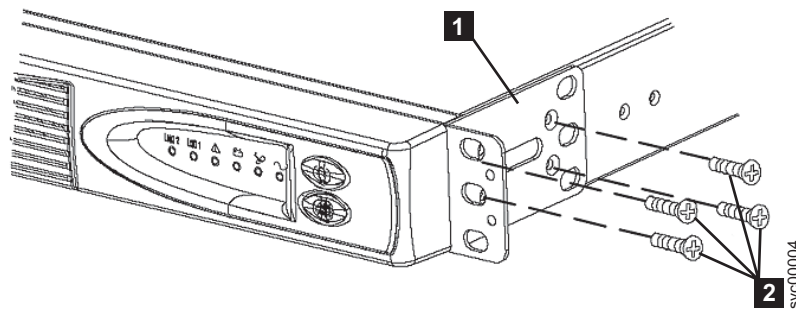

Figure 15. Installing the support rails for a 2145 UPS-1U into the rack
2. Attach the long side of a mounting bracket **1** to each side of the 2145 UPS-1U using four M3 × 6 screws **2** for each bracket. See Figure 15.